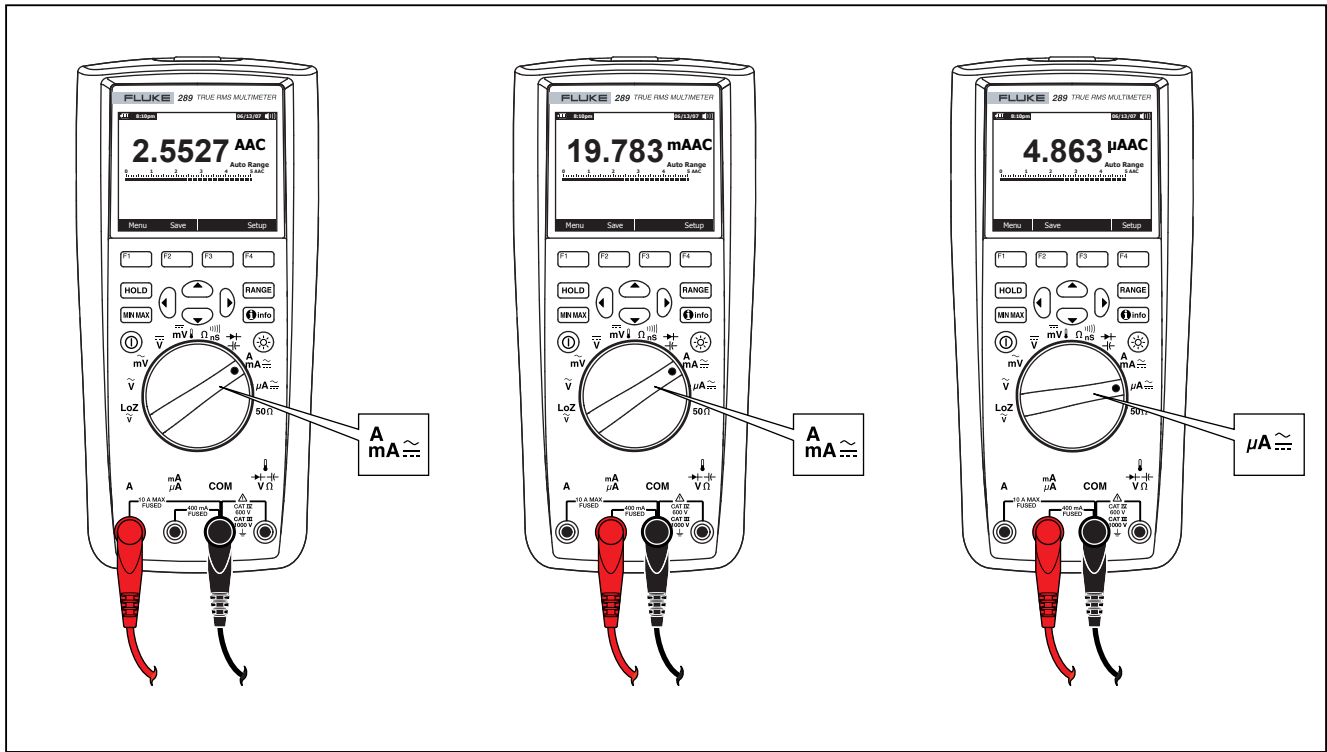

Figure 21. Current Measurement Setup
3. If you are using the A terminal, set the rotary switch to $\text{A}_{\text{MA}} \sim$. If you are using the mA/μA terminal, set the rotary switch to $\mu\text{A} \sim$ for currents below 5000 μA (5 mA), or $\text{mA} \sim$ for currents above 5000 μA. See Figure 21 for test lead connections and function selection. Refer to the "Input Alert Feature" section for information on the alerts the Meter uses when leads are not used correctly for current measurements.